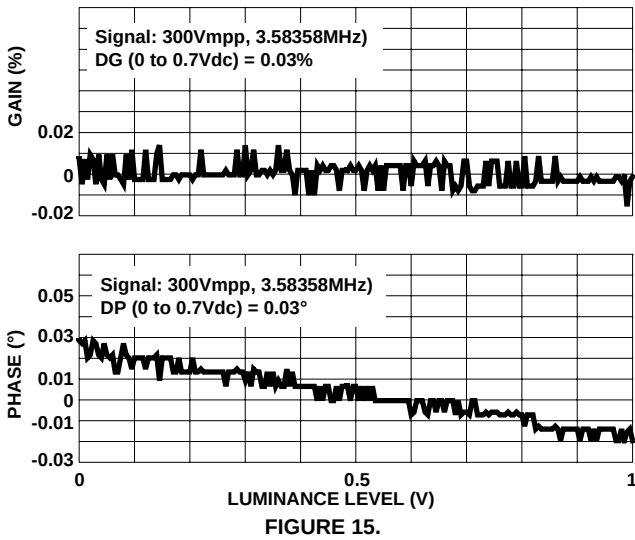
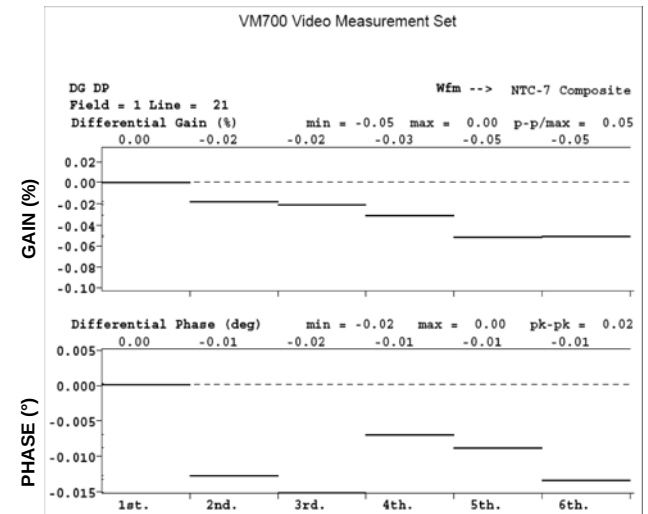

FIGURE 15.
FIGURE 16.
Figure 15 shows the measured gain and phase of a 3.58MHz, 300MV_{P-P} signal at the output of the switch relative to the signal at the input of the switch as you vary the DC offset of the signal from 0V to 1V using a network analyzer. The data from the sweep was used to calculate the differential gain (DG) and differential phase (DP). Over luminance range of 0V to 1V: DG = 0.03% and DP = 0.05°. Over luminance range of 0V to 0.7V: DG = 0.03% and DP = 0.03°. DG and DP plot using an actual NTSC video signal is shown in Figure 16. DG = 0.05% and DP = 0.02°.